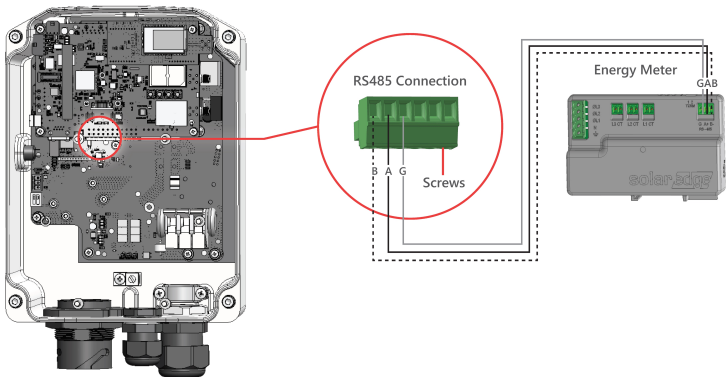

Figure 18: Meter connection
2. Remove the seal from one of the openings in the communication gland at the bottom of the SolarEdge Home EV Charger and insert the RS485 wires from the meter through the opening (see *Figure 18*).
3. Remove the 3-pin connector from the RS485-1 port on the communication board (see *Figure 18*).
4. Loosen the screws of the connector and connect the Energy Meter wires according to the connector label B to B, A to A, and G to G (see *Figure 18*).